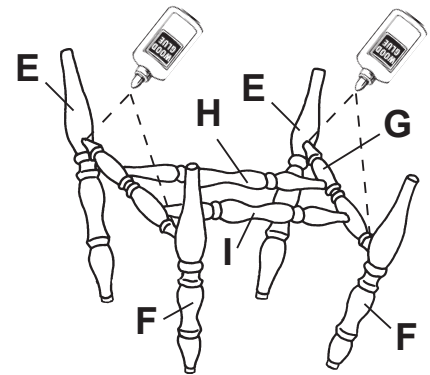

FIG. 6
- 6) Place the stretcher assembly with the brads facing down so that they do not show after final assembly. Spread a thin film of glue into the holes of the front and back legs. The shorter, back legs (F) are placed on the smaller ends of the side stretchers (G). The longer, front legs (E) go on the ends of the side stretchers (G) that are spread the farthest apart. See FIGURE 6. **PROCEED TO STEP 7 BEFORE GLUE DRIES** so that there is some flexibility when you insert the legs into the seat.